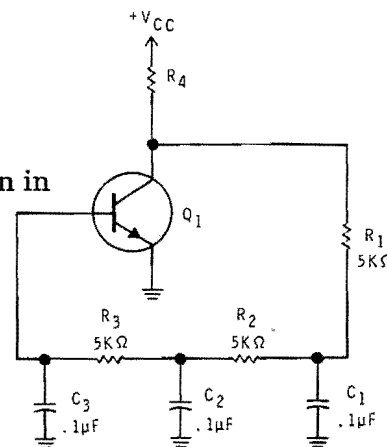

Figure 5-69
11. Figure 5-69 illustrates a typical phase-shift oscillator. Each RC network must shift the feedback signal:
12. The approximate frequency of the phase-shift oscillator shown in Figure 5-69 is: